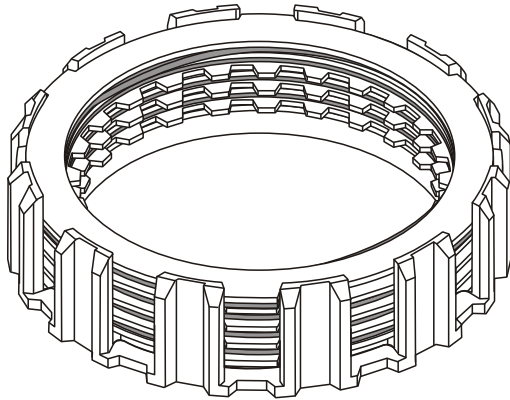

Figure 91
25. The coast clutch housing is now complete and should look like the illustration in Figure 91.